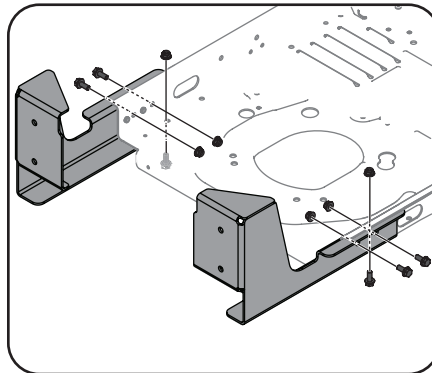

Figure 4-2
1. Secure the mounting brackets to the tractor using six (710-04043) hex screws and six (712-04063) flange lock nuts from hardware pack (689-00567). See Figure 4-2.